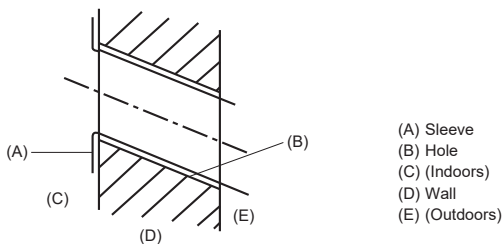

Fig. 3-3
- (B) Indoor unit
- (C) Bottom left rear pipe hole (ø75-ø80)
- (D) Bottom right rear pipe hole (ø75-ø80)
- (E) Knockout hole for left rear hole (75 × 480)
- (F) Bolt hole (4-ø9 hole)
- (G) Center measurement hole (ø2.5 hole)
- (H) Tapping hole (75-ø5.1 hole)
- (I) Hole centre
- (J) Align the scale with the line.
- (K) Insert scale.
3.2.2. Drilling the piping hole (Fig. 3-3)